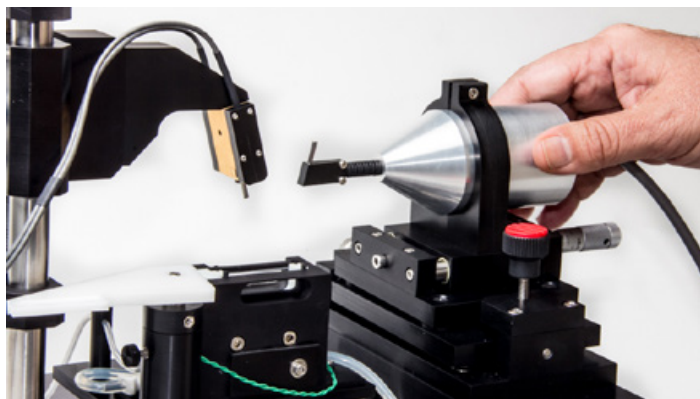

Fig. 23—Orient the motor so that the tissue mounting rod is pointing toward the center of the cuvette bath.
8. Slide the conical end of the linear motor into the motor mount ring so that the tissue mount rod is vertical. The exposed end of the tissue mount rod should be up and angled toward the right (Fig. 23) if the motor is installed correctly. When the tissue mount is installed, its tip should be positioned near the center of the cuvette, but should not touch the tissue mount attached to the force transducer. (Fig. 25) It may be necessary to slide the motor in or out to adjust the position of the tissue mount. When the motor is properly positioned, use the hex wrench to tighten the screw on the motor mount ring.